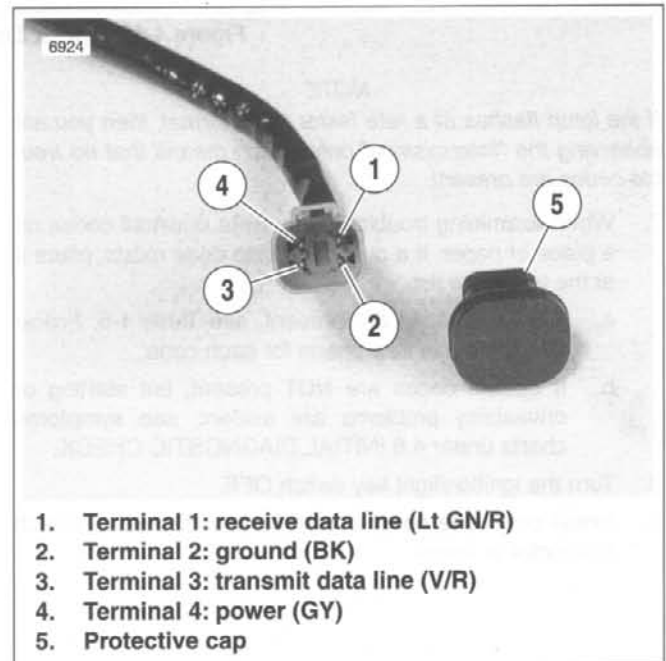

Figure 4-11. Installing Diagnostic Test Wire
- b. See Figure 4-11. Install diagnostic test wire across Terminal 1 and Terminal 2 on the data link connector [91A].
- See Figure 4-11. If Scanalyzer reads "No Response" with the ignition key switch turned ON (engine stop switch at RUN with the engine off), check serial receive data wire for an open or short to ground between data link Terminal 1 (Lt GN/R wire) and ECM.